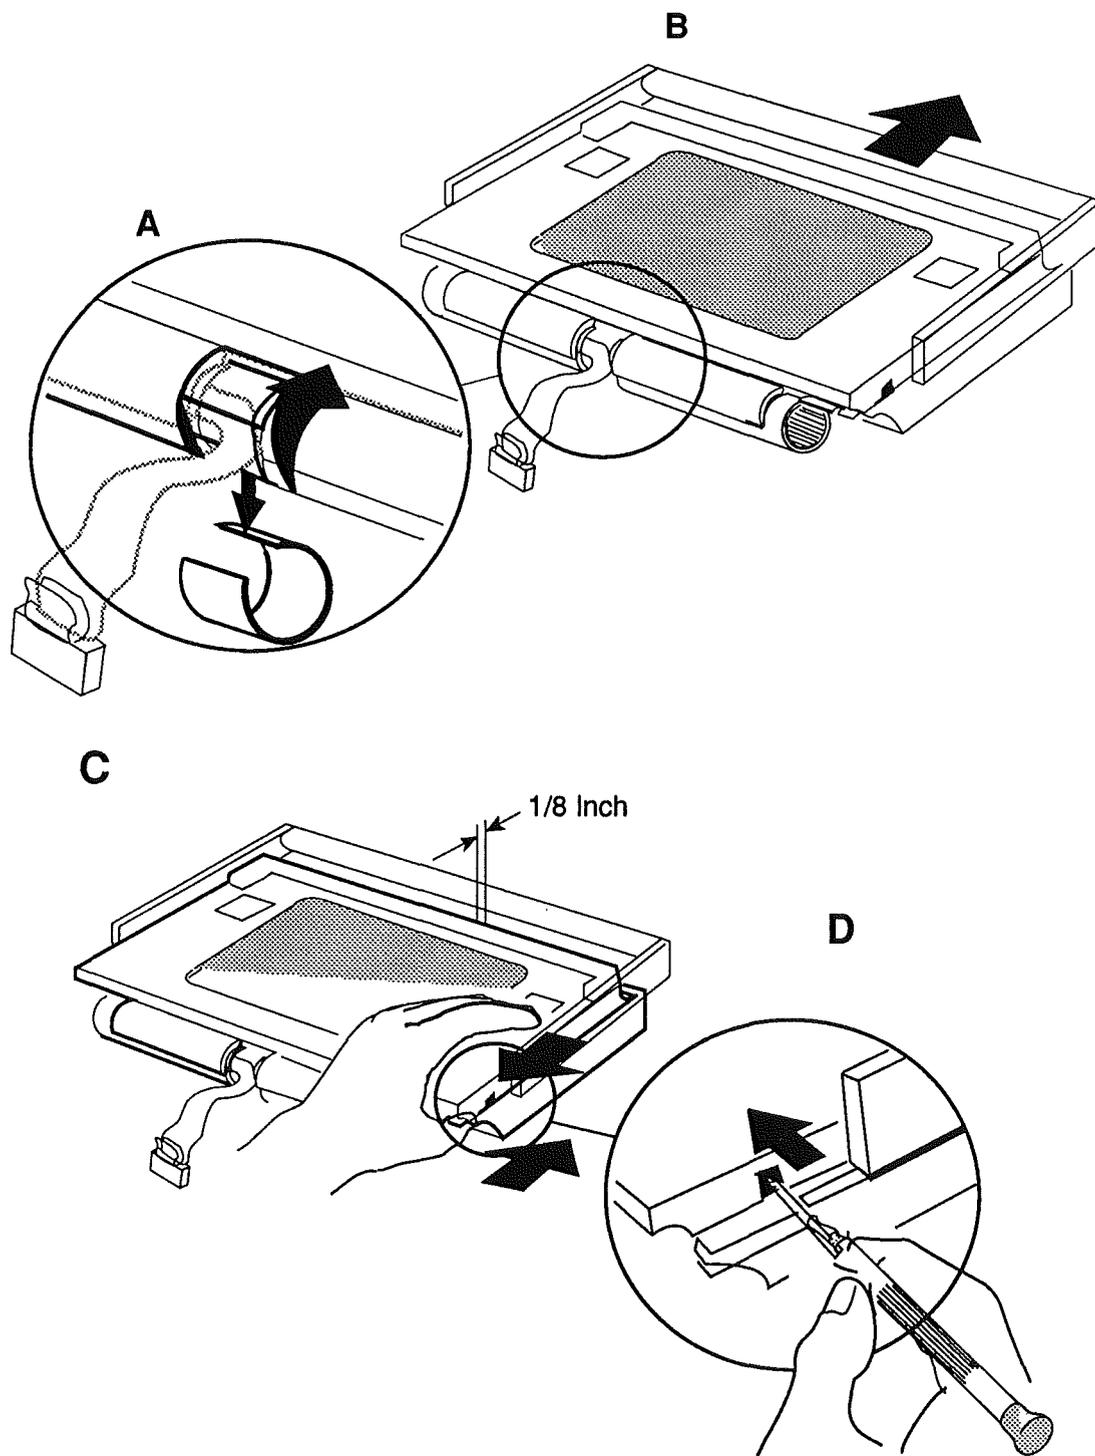

FIGURE 13
3. **Figure 13-A.** Remove the center pivot cover by turning the opening of the cover toward the display and then pulling the cover away from the display housing.
4. **Figure 13-B.** Slide the carrying handle to its fully extended position.
5. **Figure 13-C and 13-D.** Release the right side of the display bezel by inserting the jeweler's screwdriver into the display latch opening on the left side of the display housing as shown in Figure 13-D. Hold the screwdriver with your right hand. Push the screwdriver into the opening until you hear a click.
6. **Figure 13-C.** Place your left hand on the display as shown in the illustration. Simultaneously pull the display bezel toward you with your index and middle fingers while pushing the display housing away with your thumb. The two parts separate about 1/8 inch.